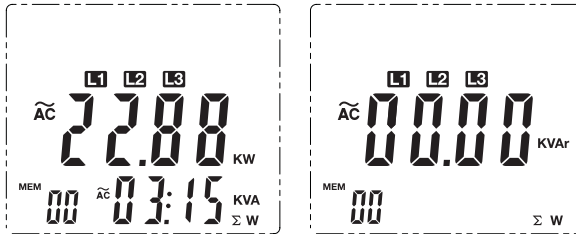

Figure 9
12. After recording the kW power measurement value for the third phase, press and Hold the Σ **button** for 1 second to display the 3 phase sum of **kW** on the main display and **kVA** on the secondary display. (figure 9)
9. After recording the kW power measurement value for the L3 phase, press and Hold the Σ **button** for 1 second to display the 3 phase sum of **kW** on the main display and **kVA** on the secondary display. (figure 9)
For Figure 9: for 3-wire $\Sigma W = W1 + W3$